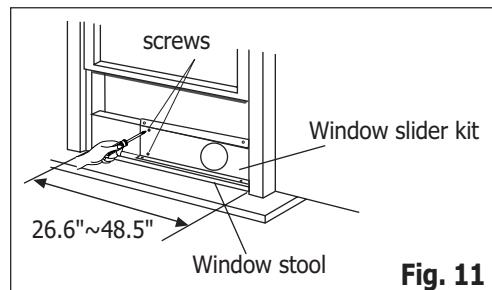
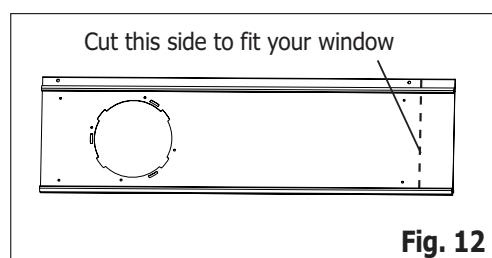
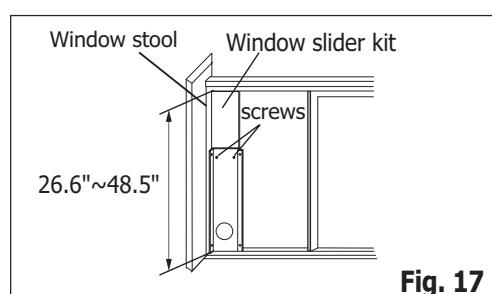

Fig. 11
Fig. 12
Fig. 17
2. Open the window sash and place the window slider kit on the window stool (Fig. 11). Attach the window slider kit to the window stool. Adjust the length of the window slider kit according to the width of window. Screw down the two screws on the window slider kit. See Fig.11. Cut the adjustable window slider kit if the width of window is less than 26.6 inches (Fig. 12).
2. Open the window sash and place the window slider kit on the window stool. See Fig.17. Attach the window slider kit to the window stool. Adjust the length of the window slider kit according to the height of window. Screw down the two screws on the window slider kit. See Fig.17. Cut the adjustable window slider kit if the height of window is less than 26.6 inches (Fig. 12).